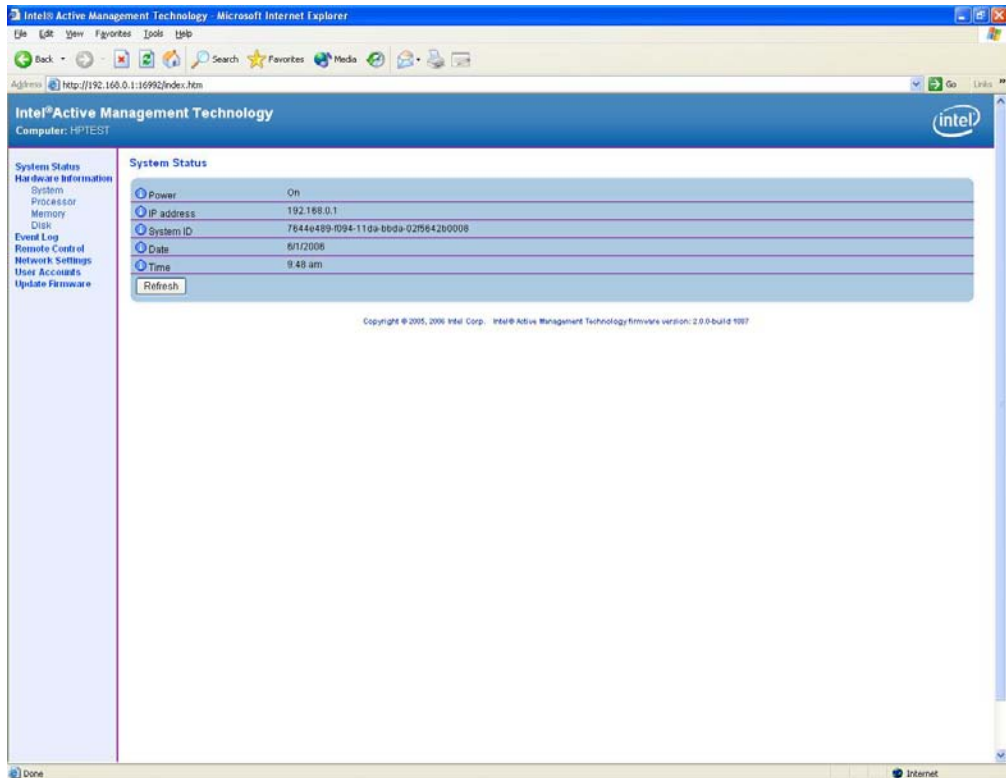

Figure 24. Intel AMT WEB GUI Screen
5. Enter username and password. The default username is "admin" and the password is the one set during AMT Setup in the MEBx. After login, the System Status screen appears (Figure 24).